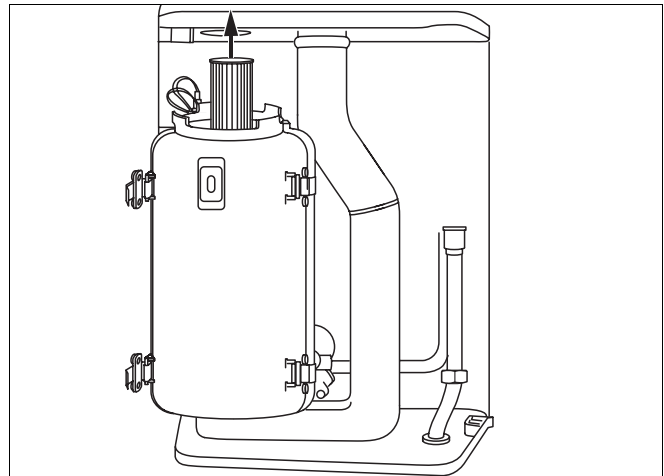

Fig. 40 Remove burner
- Remove heat exchanger by pulling upwards through the opening (fig. 40).